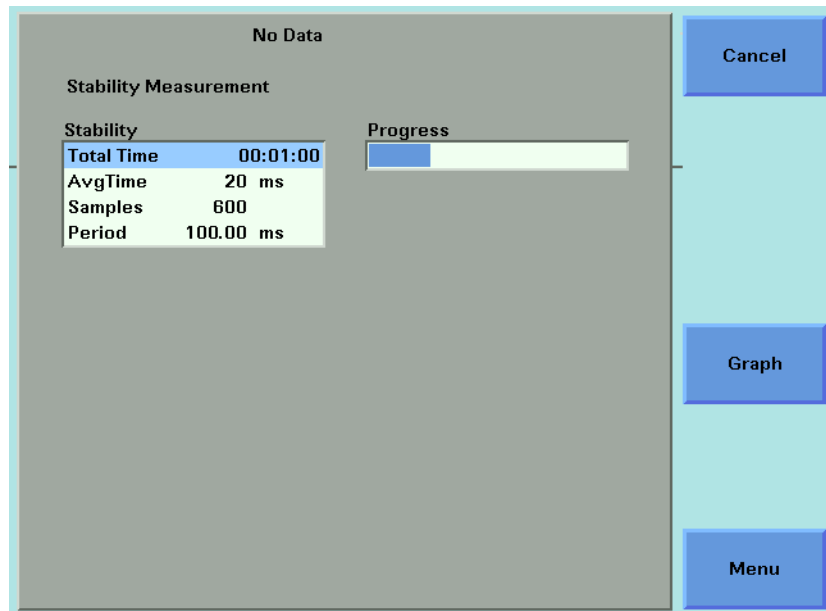

Figure 173 The Stability Measurement Screen - Measurement Running
- 17 You can run the stability application by pressing [Measure]. The Stability Measurement screen, as shown in Figure 173 on page -281, appears. A progress bar shows the proportion of the stability application that has been completed.
- 19 When the stability application completes, you hear a beep, an hourglass appears momentarily. If you are viewing the Stability Measurement Screen, the available softkeys change as shown in Figure 173 on page -281.